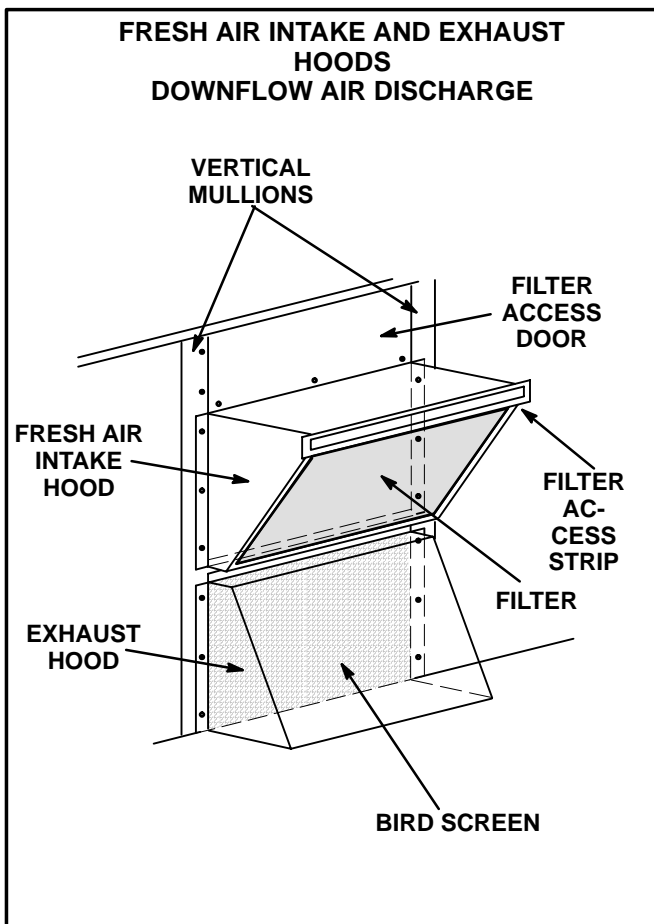

FIGURE 4
- 4- Align keyhole slots on exhaust hood with screws on unit vertical mullions. Secure three screws on each side. See figure 4. Make sure exhaust dampers rotate freely and seal against each other.
- 5- Align keyhole slots on intake hood with loosened screws on unit vertical mullions. Tighten three screws on each side. See figure 4.